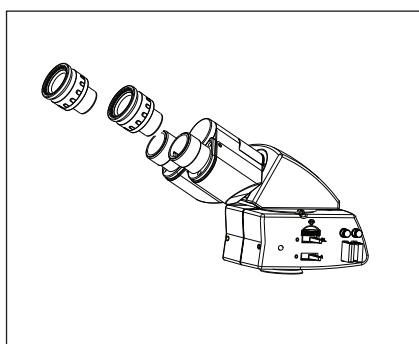

Fig.17
2. Insert eyepieces into the ocular sleeve for use (See figure17).